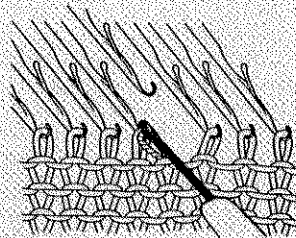

Fig. 83
- a) With the single needle transfer tool, transfer the center stitch onto a neighboring needle on either side. (See Fig. 83)